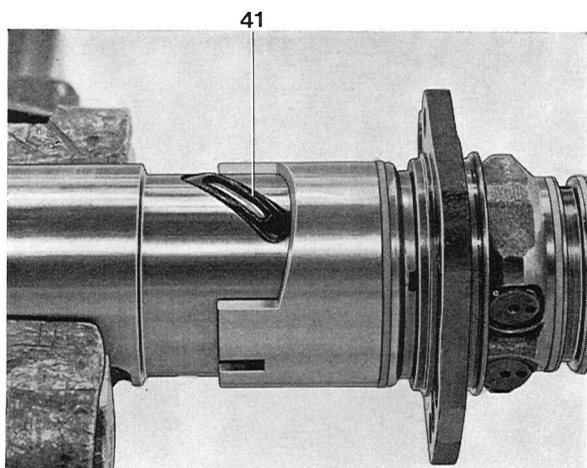

Fig. 6-96. Packing installation
Move the worm into the piston while installing the 23 balls, see point 7. Install the packing (41), see Fig. 6-96. Assemble the piston and sleeve and install the pin (23) if it has been removed. The sleeve recess should be on the gear side.